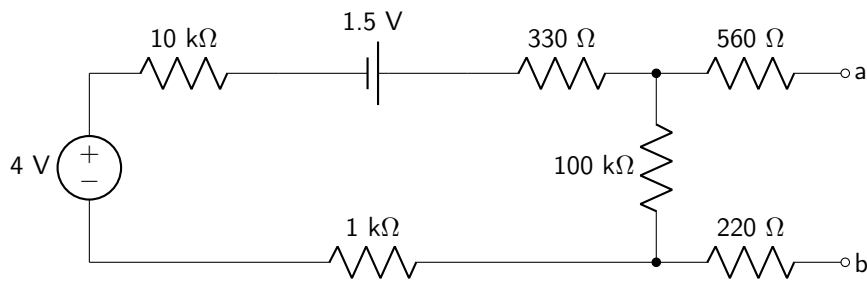

Figure 5.10: One of the Thévenin mystery box circuits.
4. Consider the circuit shown in figure 5.10. Calculate the Thévenin equivalent voltage and resistance with respect to nodes a and b. When you have completed this, identify which of the mystery circuits that it is.